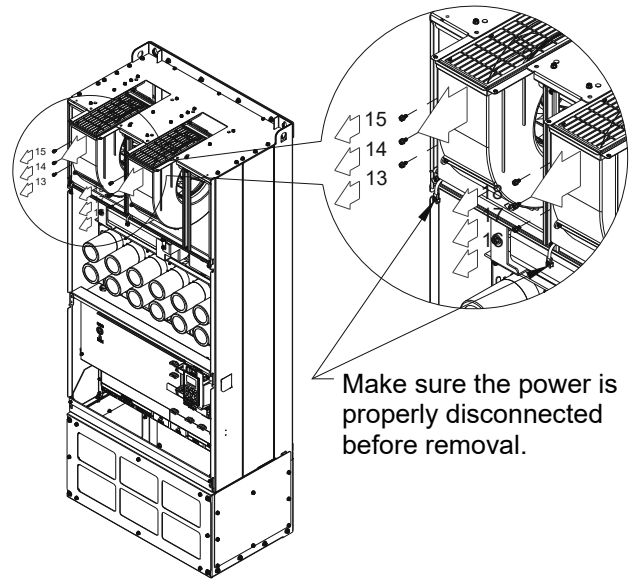

Figure 4
4. Loosen the screw 13-18 and remove the fan. Screw torque: 24-26 kg-cm / [20.8-22.6 lb-in] / [2.4-2.5 Nm] (as shown in figure 4)